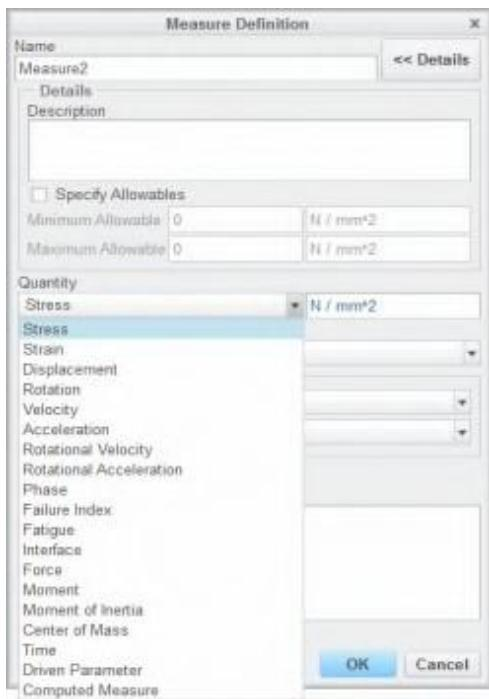

Figure 2 – User-Defined Measures
- Specify the quantity to be measured – The available quantities are shown in Figure 2.